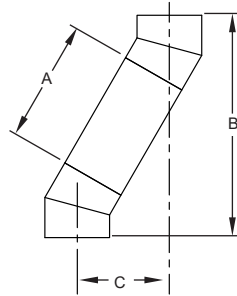

FIG. 17
**Offset combinations: see Table 3 and illustration, FIG. 17.**